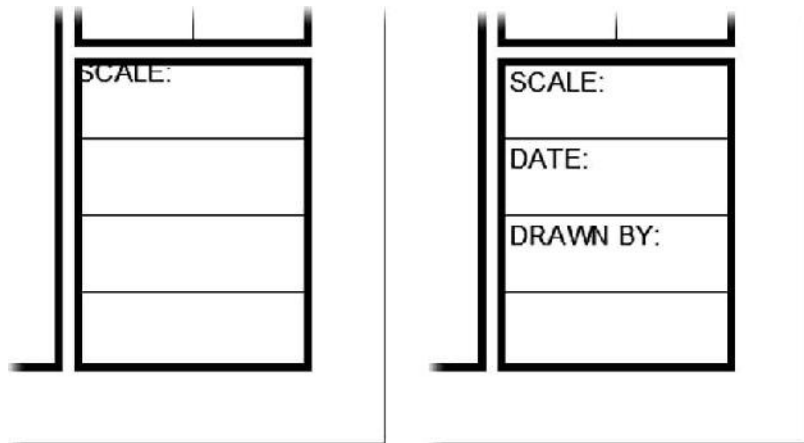

FIGURE 8.50: One line of text placed (left) and the completed title-block labels (right)
The word *SCALE* appears in the lowest box (see the left image of Figure 8.50). Don't worry about the box's boundary overlapping the *SCALE* text, as you'll fix this in a moment.
17. Pick any point in the drawing as a base point, and enter **@3,-3↵** (**@75,-75↵**) for the second point to move the labels into place (see the right image of Figure 8.50).